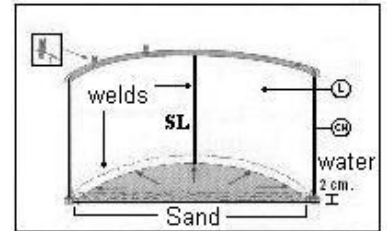

fig.23
a) Place the liner (L) at the centre of the swimming pool and unfold it towards the edge. Place the rough side on the outside. The welded part that joins the base of the liner with the edge must match perfectly the lower sections and the wall around the inside perimeter at the bottom of the swimming pool, fig.23.